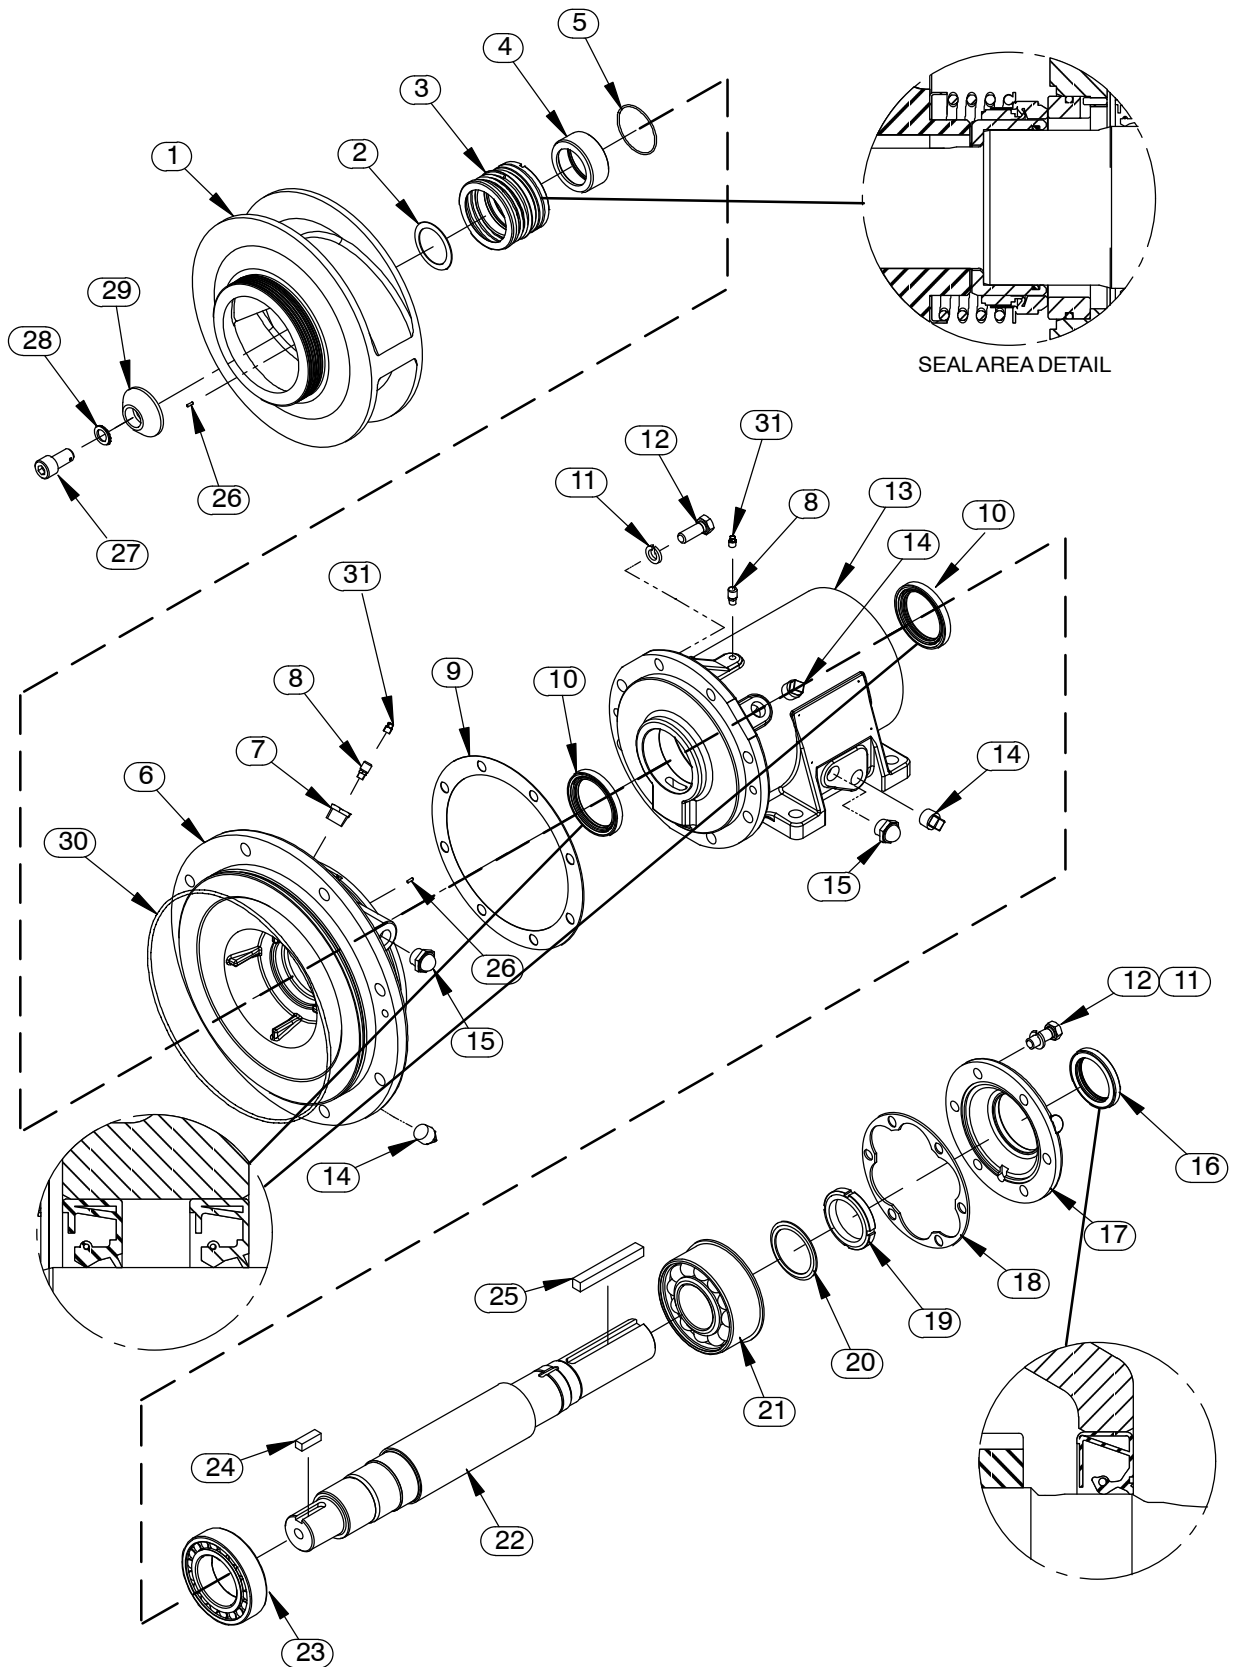

Figure 2. Repair Rotating Assembly
#### (Figure 2)
#### (Figures 2 and 3)
Further disassembly requires separating the rotating assembly from the power source. Remove the coupling securing the rotating assembly to the power source and remove the key (25, Figure 2).